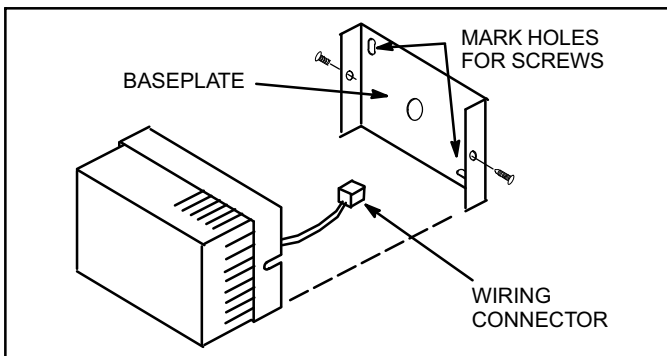

**Figure 1. Sensor Wiring**
1. Route cable from the unit controller to an appropriate location in the conditioned space. Make wire connections to unit as shown in figure 1.
- Connect wiring to sensor as shown in figure 1. When use of the data port is desired on 56L80 and 94L60 sensors, make communication wire connections as shown in figure 5.
1. Route cable from unit controller to an appropriate location in the conditioned space. Make wire connections to unit as shown in figure 1 (see Page 1).